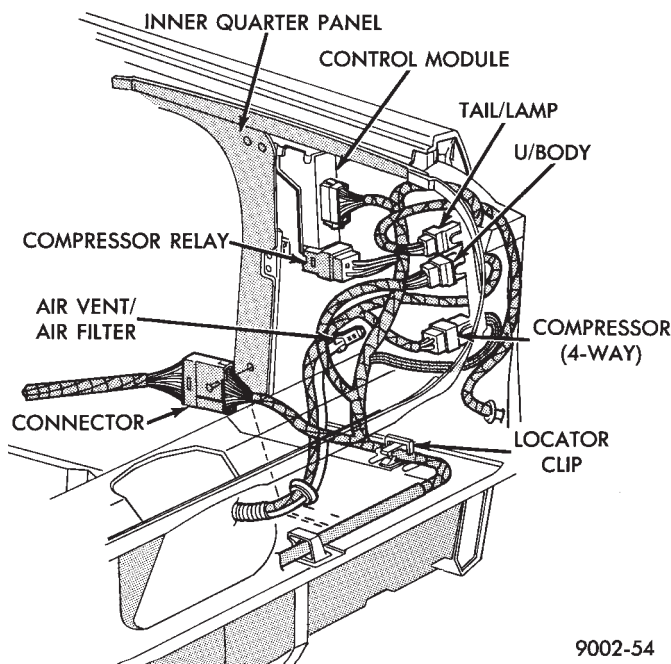

Fig. 11 Control Module and Relay Wiring
- (1) Disconnect negative battery cable.
- (2) Remove right side trunk trim panel.
- (3) Remove electrical connectors from control module and relay (Fig. 11).
- (4) Remove control module mounting screws and remove assembly.
- (1) Install relay on the control module mounting bracket (if required).
- (2) Place control module in mounting position.
- (3) Install mounting screws and tighten to 2-3 N•m (19-29 in. lbs.) torque.
- (4) Install control module and relay wiring connectors (Fig. 11).
- (5) Install right side trunk trim panel.
- (6) Connect negative battery cable.
- (1) Remove right side trunk trim panel.
- (2) Remove electrical connector from relay.
- (3) Remove relay from control module mounting bracket by prying out on locating clip (Fig. 11)